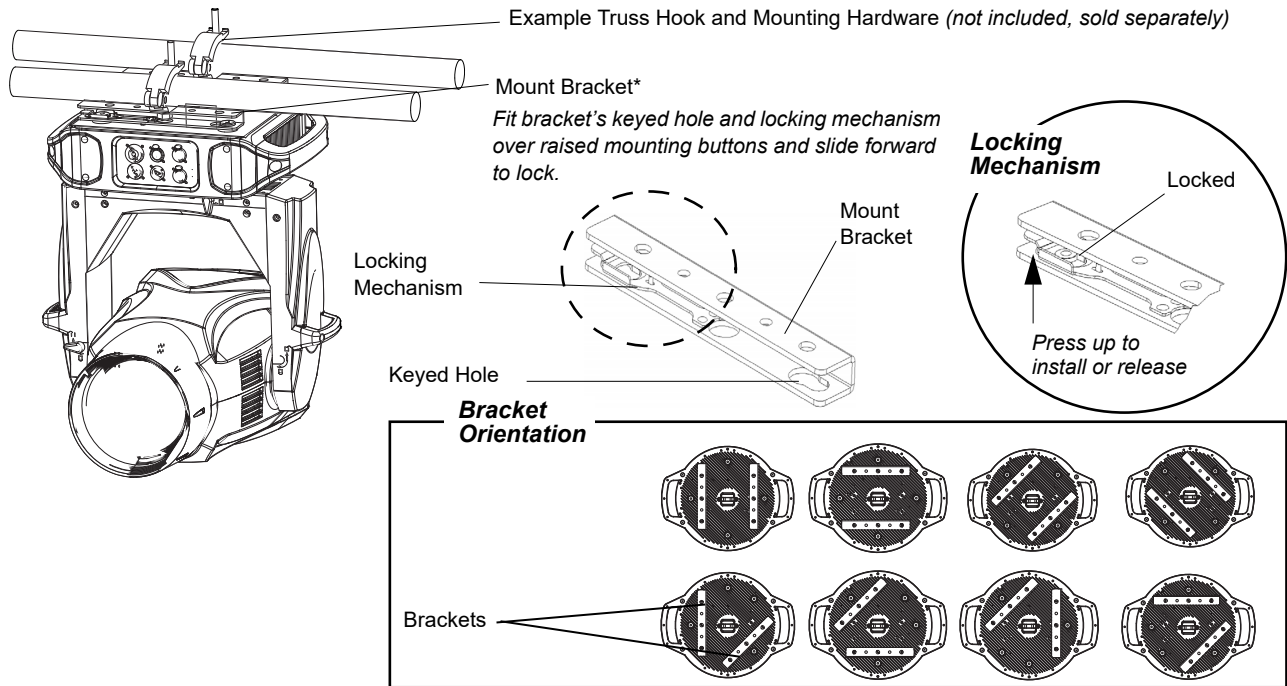

Figure 4: Installing Brackets on Luminaire Enclosure
- Step 2. Determine required configuration of bracket installation. Brackets may be installed in many different orientations as shown in Figure 4.